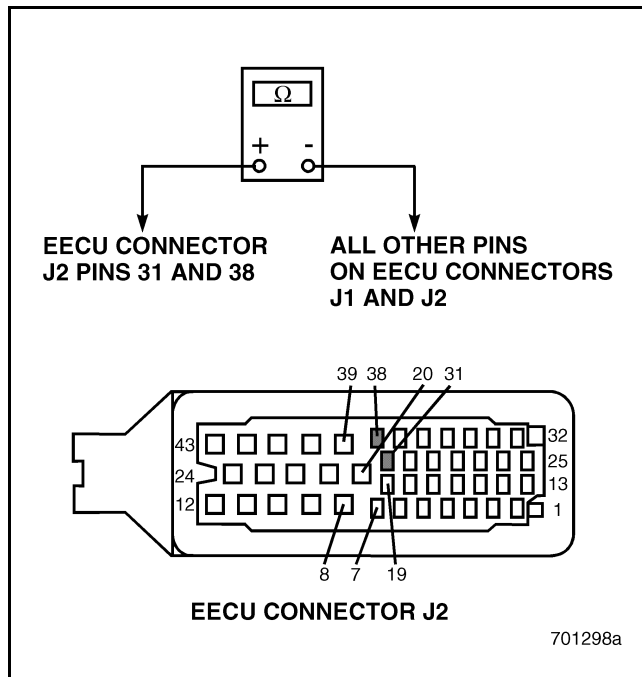

Figure 627
5. Check for continuity between EECU connector J2 pins 31 and 38 and all other pins on EECU connectors J1 and J2 (see Figure 627).